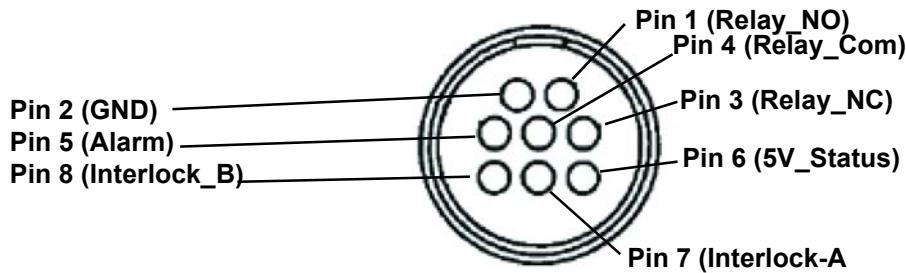

Figure 4-3 Remote Alarm (8-pin AMP) Connector
- Page 2: Remote alarm connector test (see Figure 4-3 for pin-out). The remote alarm connector is tested for continuity and voltage at specified pins. Pins 1, 3, and 4 are fused non-powered passive outputs connected to a single-pole double-throw (SPDT) relay. Pins 2, 5, and 6 are powered outputs. Pins 2 and 5 provide an isolated +5 V alarm signal (high = alarm; low = no alarm). Pins 2 and 6 provide an isolated +5 V supply voltage. For more information on the isolation board, see “Isolation Board,” page 46.